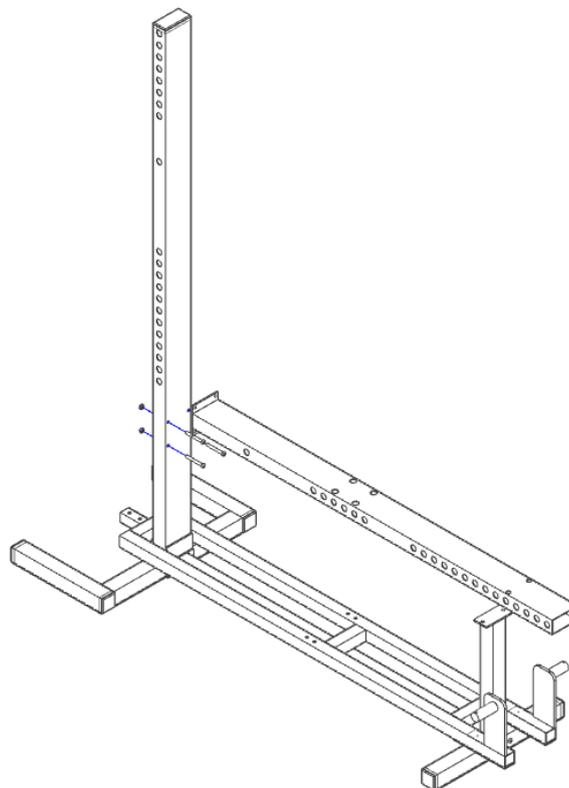

Figure 5
Next, attach the top bar ⑤ to the post using two M8×65 hexagon-socket bolts ⑩ and M8 nuts ⑪, as shown above (figure 5). Then attach the top bar ⑤ to the front leg and base ② by inserting two M8×20 hexagon-socket bolts ⑨ through the top bar ⑤ and securing them with two nuts ⑪.